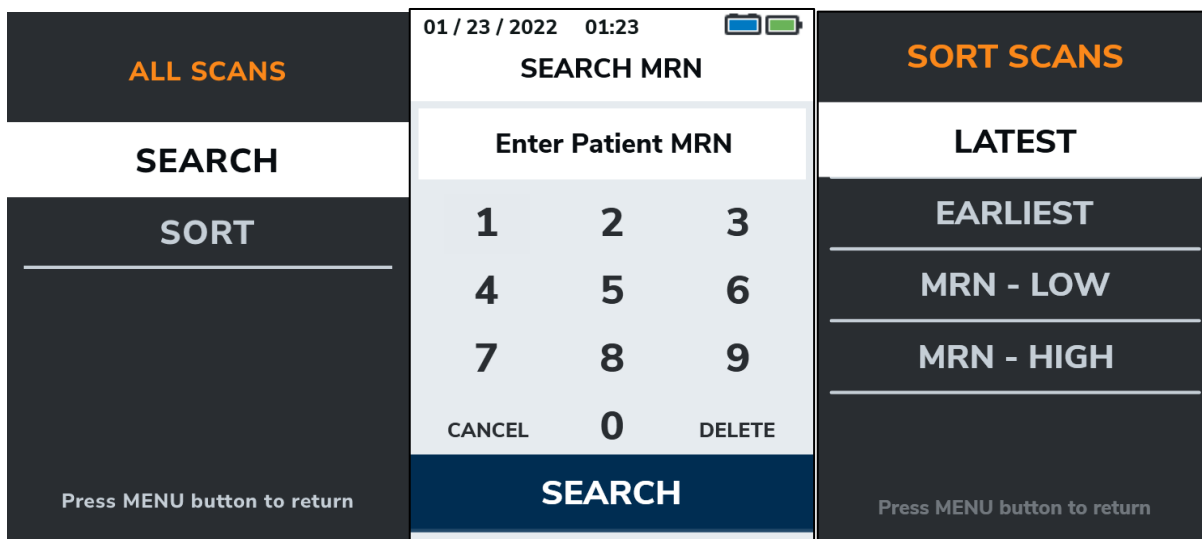

Figure 3-13: Searching and sorting popup menus
7. In the scans list it is possible to find a specific patient or to sort the list by pressing the menu button, which opens a popup menu allowing searching and sorting, as in Figure 3-13.